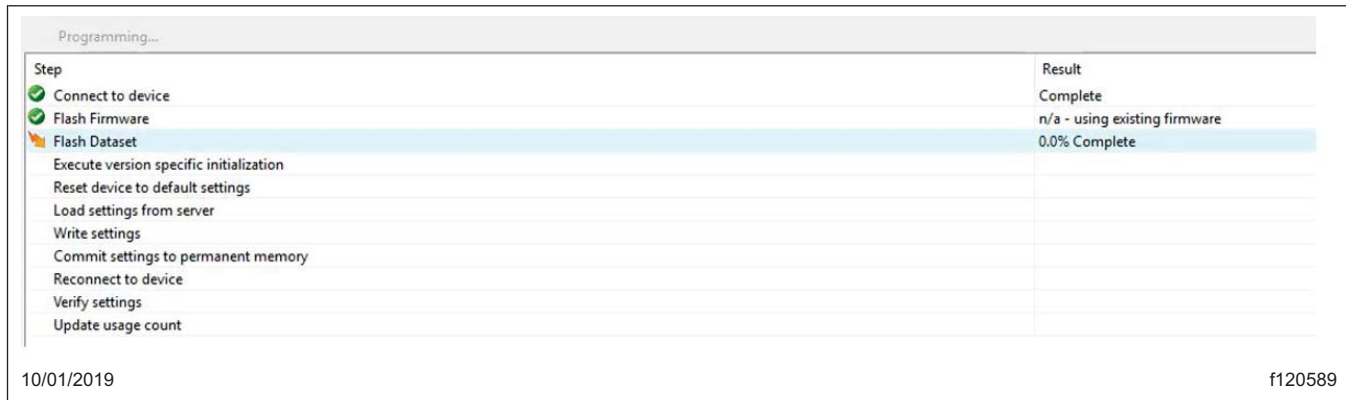

Fig. 7, DiagnosticLink Software Download Page
15. Click "Start." DiagnosticLink will begin to install 7.43 software on the BHM. See Fig. 7.